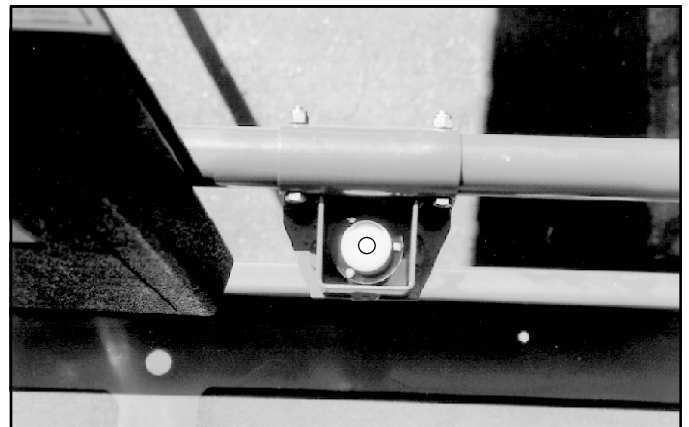

Figure 3: Platform Orbit Level
14. Open the chassis emergency lowering valve (Figure 3) to check for proper operation by pulling and holding the knob out. Once the platform is fully lowered, close the valve by releasing the knob.
3. While observing the bubble level on the front guardrail (fig. 3), extend the outrigger opposite the position of the bubble until the platform is level. For example: if the bubble is to the front and left in the orbit, extend the rear right outrigger. Continue to adjust until the bubble is centered in the small circle indicating that the platform is level.